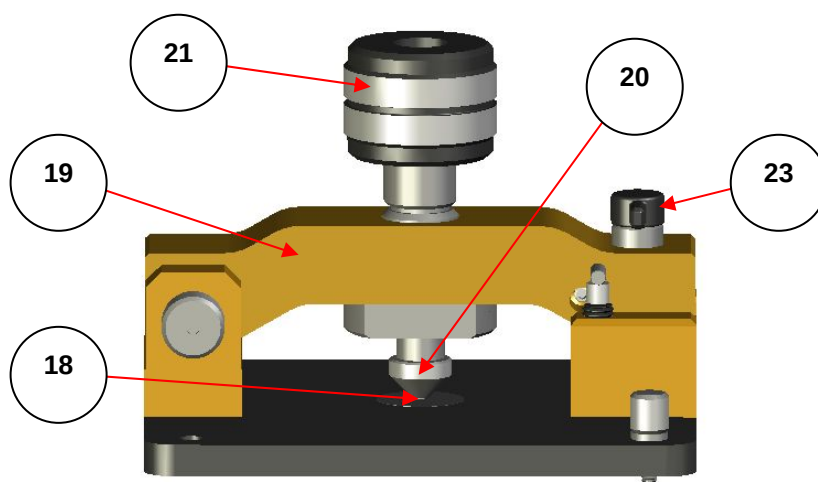

Fig 25: Front View of MKII Diamond ATR Top Plate (Bridge Closed)
The clamp bridge (19) has a quick lock and release mechanism (23). When pressure needs to be applied to a solid sample the bridge must be closed (see Fig 25). The quick lock and release screw is pushed down and turned clockwise 90° to lock the bridge closed. To release the bridge the screw is pushed down and turned anticlockwise 90°.